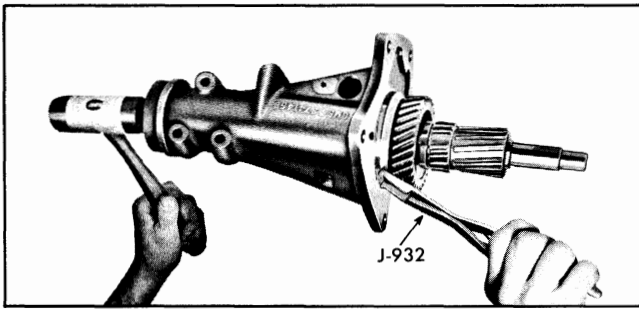

Fig. 7-21 Removing Mainshaft from Extension Housing
20. Expand rear bearing snap ring, using tool J-932 (Fig. 7-21), and, while snap ring is expanded, tap rear of shaft with soft hammer to bring mainshaft assembly forward and out of extension.